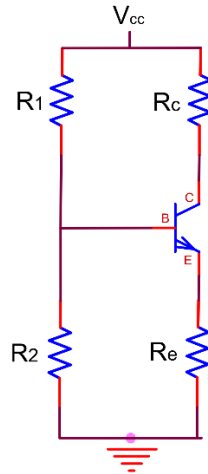

Figure 6.3
1. Construct Figure 6.3 and measure all the DC voltages.